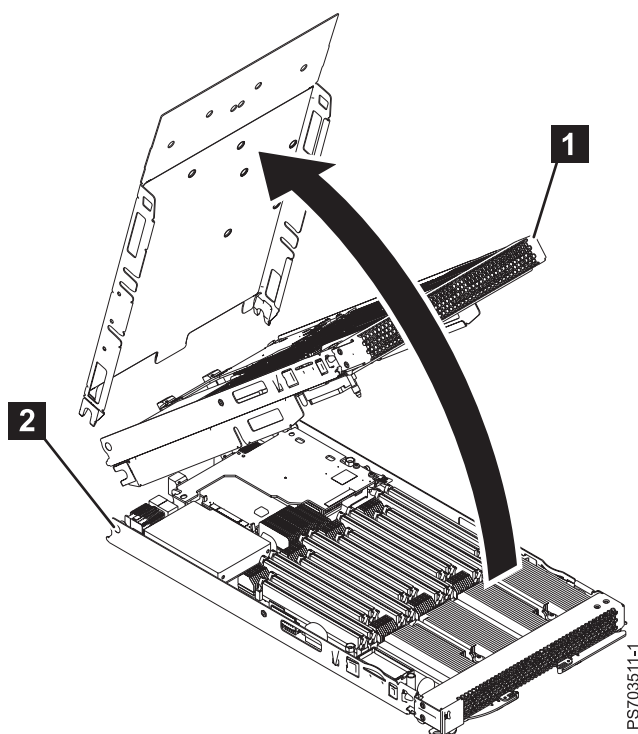

Figure 14. Removing the expansion unit
6. Pivot the expansion unit (**1** in Figure 14) up on the cover pins of the base unit (**2**).
7. Lift the expansion unit (**1** in Figure 14) from the blade-server base unit and lay it on a flat, static-protective surface.